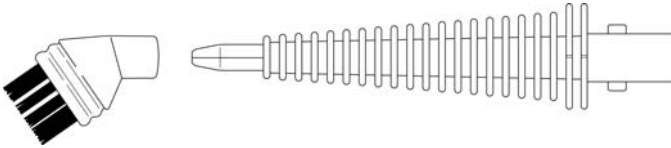

FIGURE 4
1. Begin by aligning hexagonal-shaped hole on back of Utility Brush with hexagonal tip of the Jet Nozzle (FIGURE 4).